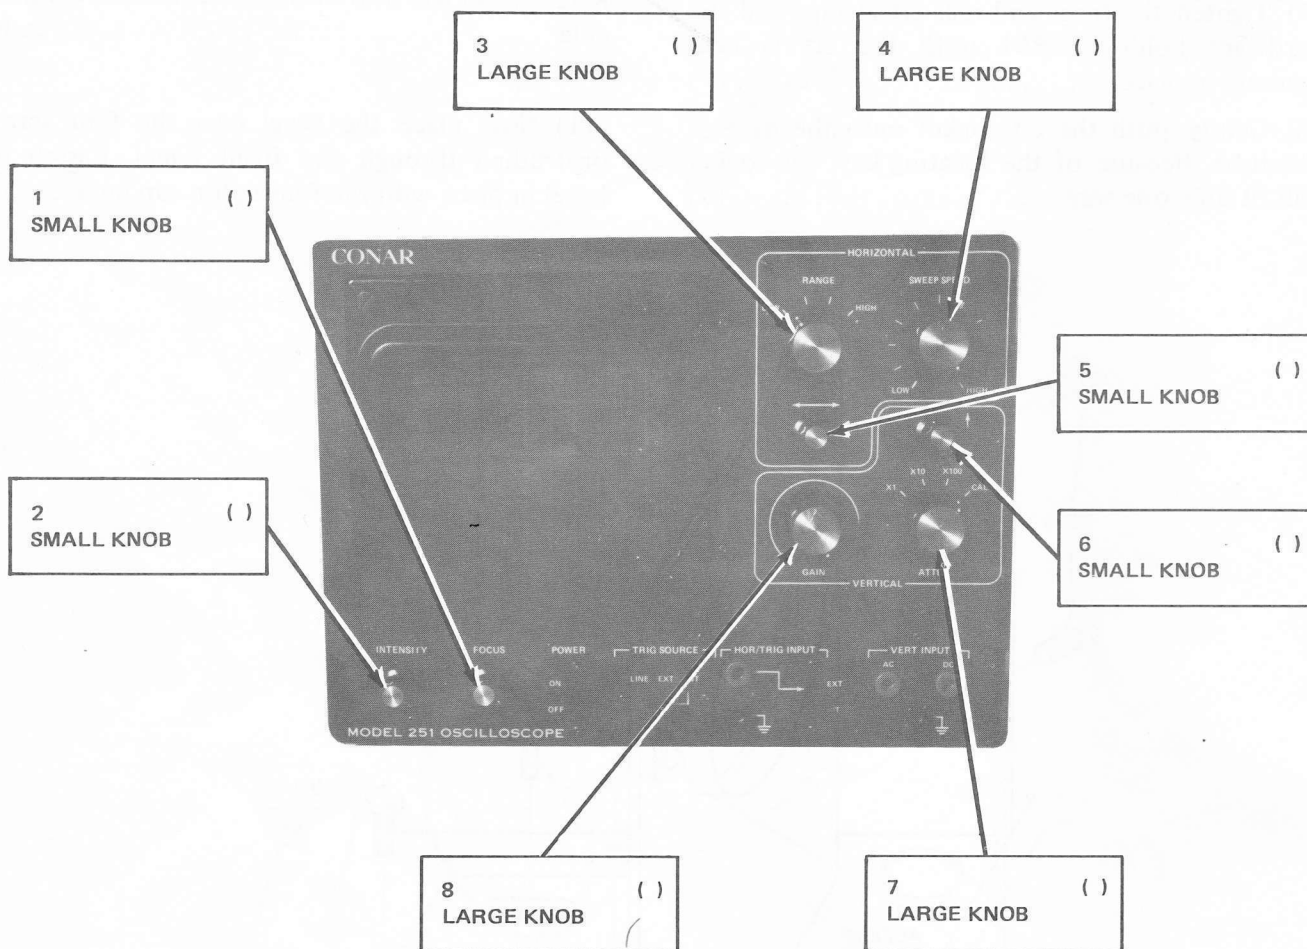

Figure 38. Installing the knobs.
(1) Install the front panel knobs as shown in Fig.38. Position the knob marks as shown. Secure the knobs on the shafts by tightening the set screw with a small-bladed screwdriver ()